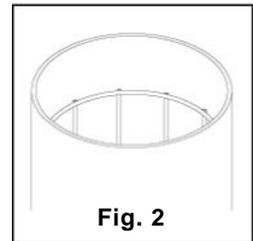
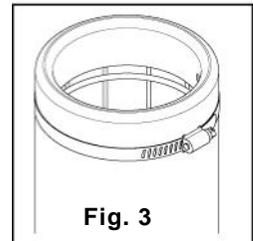
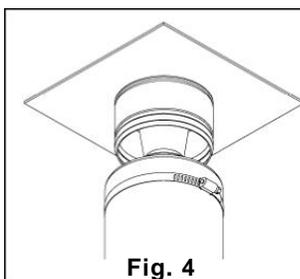
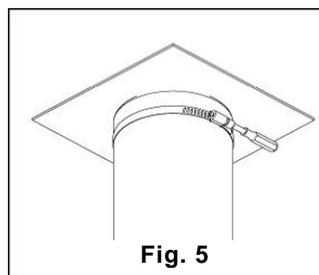

Fig. 2
Fig. 3
Fig. 4
Fig. 5
3. Fold the top of the bag (about 2 inches) over the top edge of the cage. Smooth out the inside folds and make sure that the bag does not overlap the annular ring on the inside of the cage. If necessary, trim any excess bag length. (See Fig. 2)
4. Loosely slip on the bag clamp making sure that the tightening mechanism (worm gear screw) is not over the bag seam. Locate the bag clamp 1" to 1-1/2" below the top of the bag & cage assembly. (See Fig. 3)
5. Starting at the far side of the collector, slide the bag and cage assembly upward over the bag cup until the cage snaps into place on the groove in the bag cup. The bag & cage assembly should fit snug against the tube sheet for proper alignment. (See Fig. 4)
6. Tighten the bag clamp until the bag and cage assembly does not rotate. (See Fig. 5)
NOTE: It is important to use a 3/8" socket. A screwdriver may slip off the bag clamp and accidentally puncture the bag. (See Fig. 5)
2. The bag cuff has two sewn-in spring steel bands. (See Fig. 2). Collapse the cuff inward onto itself (See Fig. 3) and into a "U" shape and lower the bag (See Fig. 4) until one of the bands is below the tube sheet (See Fig. 5) and the other above. Then, let the cuff spring back to its original shape. (See Fig. 6) Smooth the cuff around the hole. The cuff should form a perfect seal at the tube sheet.